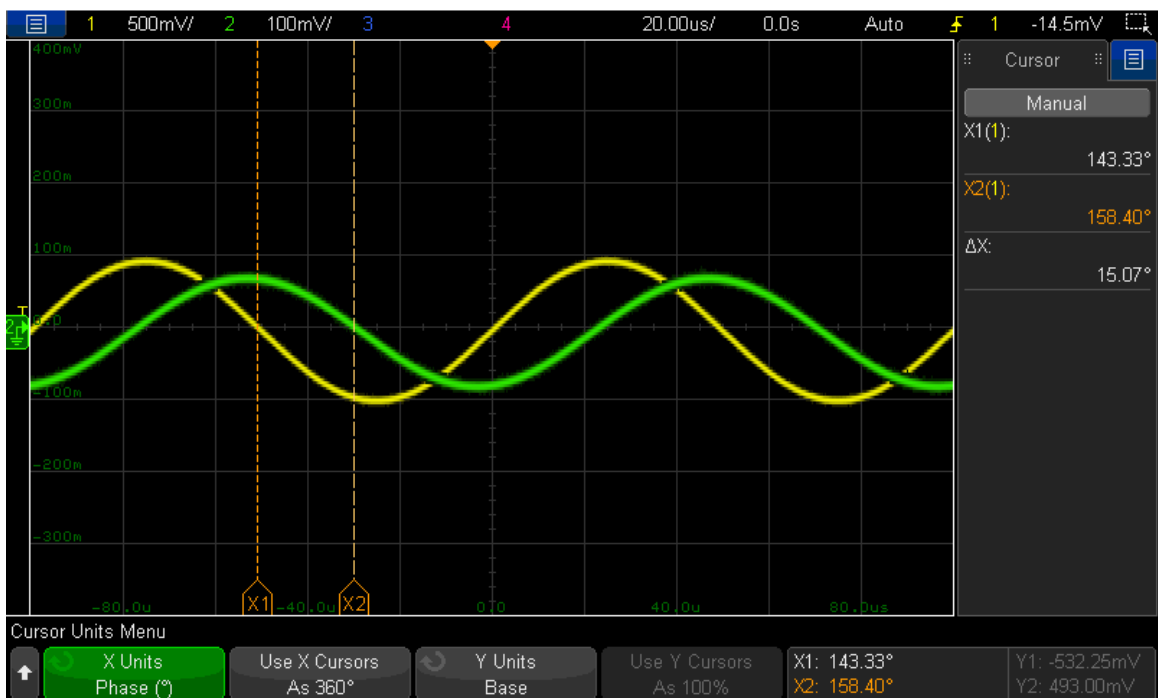

Figure 24: Using cursors to measure phase difference in degrees
- To measure phase difference in degrees, touch "Units", then "X Units Seconds", and then "Phase (°)" (see Fig. 24)